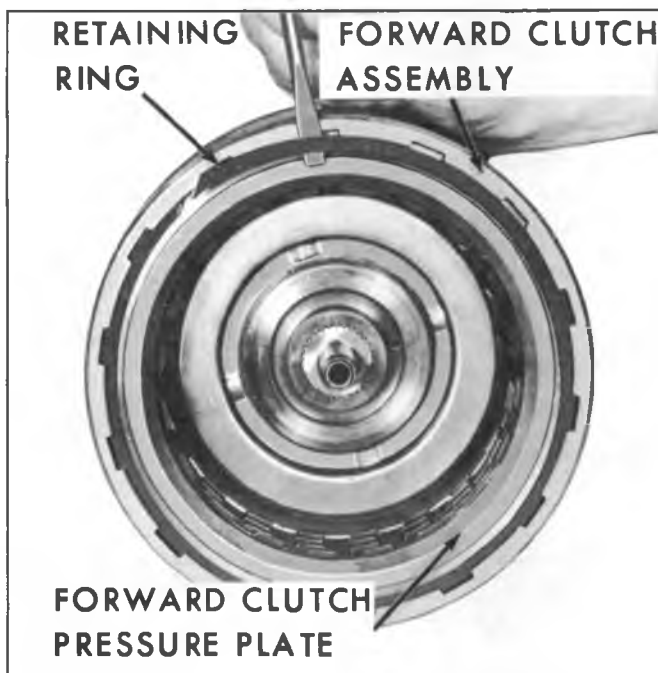

Fig. 80M--Removing Forward Clutch Retaining Ring and Pressure Plate
1. Remove forward clutch retaining ring and pressure plate (fig. 80M).